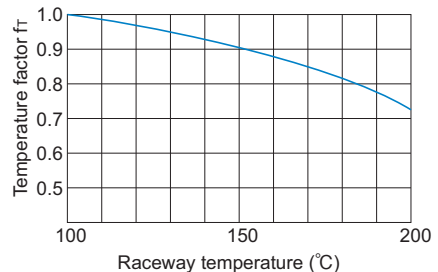

Fig.3 Temperature Factor (f_T)
- f_T : Temperature factor (see Fig.3 on **A5-6**)
If the temperature of the environment surrounding the operating model ST exceeds 100°C, take into account the adverse effect of the high temperature and multiply the basic load ratings by the temperature factor indicated in Fig.3.